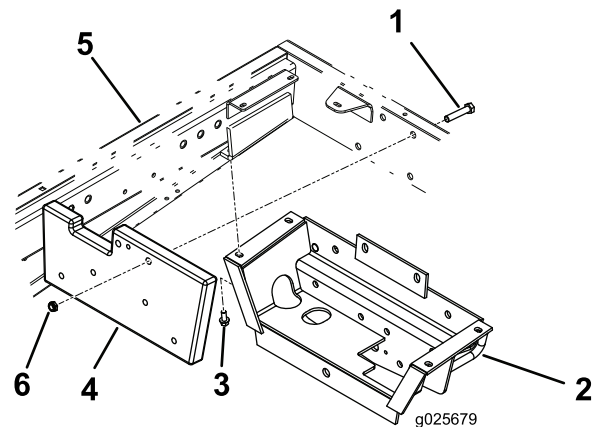

Figure 1
5. If the machine has rear weight(s) attached to the frame, remove and discard the weight(s) (Figure 1).
6. Remove the (2) capscrews and nuts that secure the rear of the axle frame and the inside weight to the rear of the machine frame (Figure 1). Retain the weight for installation later in the procedure.
8. Remove the (4) flange head screws that secure the rear frame and axle assembly to the underside of the machine frame (Figure 1).